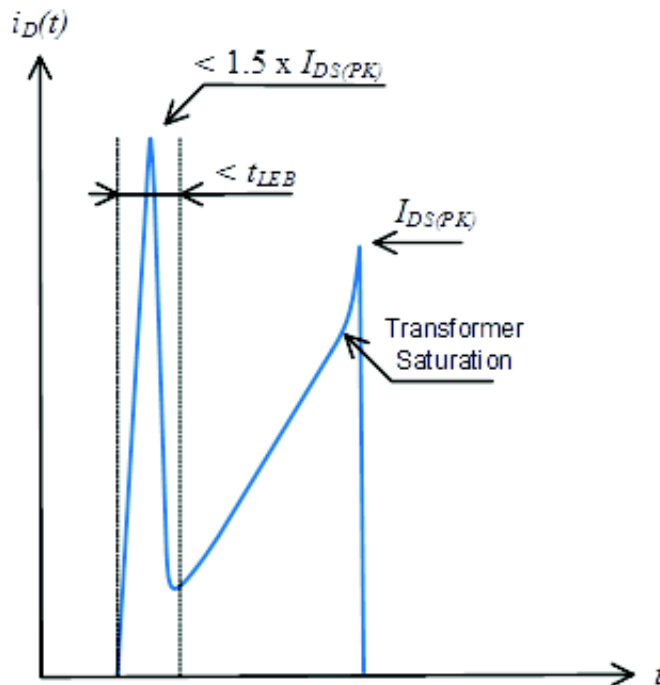

Figure 4. Spike Limits
- Maximum drain current $I_{DS(PK)}$ is obtained when the transformer saturates. It should not be mixed with short pulses that can be seen at turn on. Figure 4 below provides spike limits the device can tolerate.